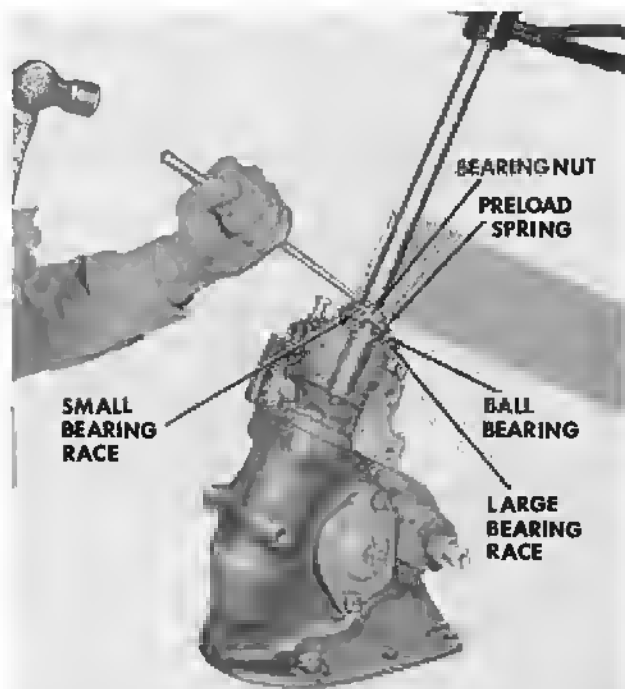

Figure 19 - Staking the Thrust Nut to the Steering Shaft
8. Grip the steering wheel to prevent the shaft from turning and tighten the lock nut until it seats firmly against the valve spool. Back the nut off about  $1/6$  turn and stake the nut to the groove in the shaft. Support the shaft from the opposite side of the groove as shown in Figure 19 while staking the nut in order to prevent damage to the shaft.